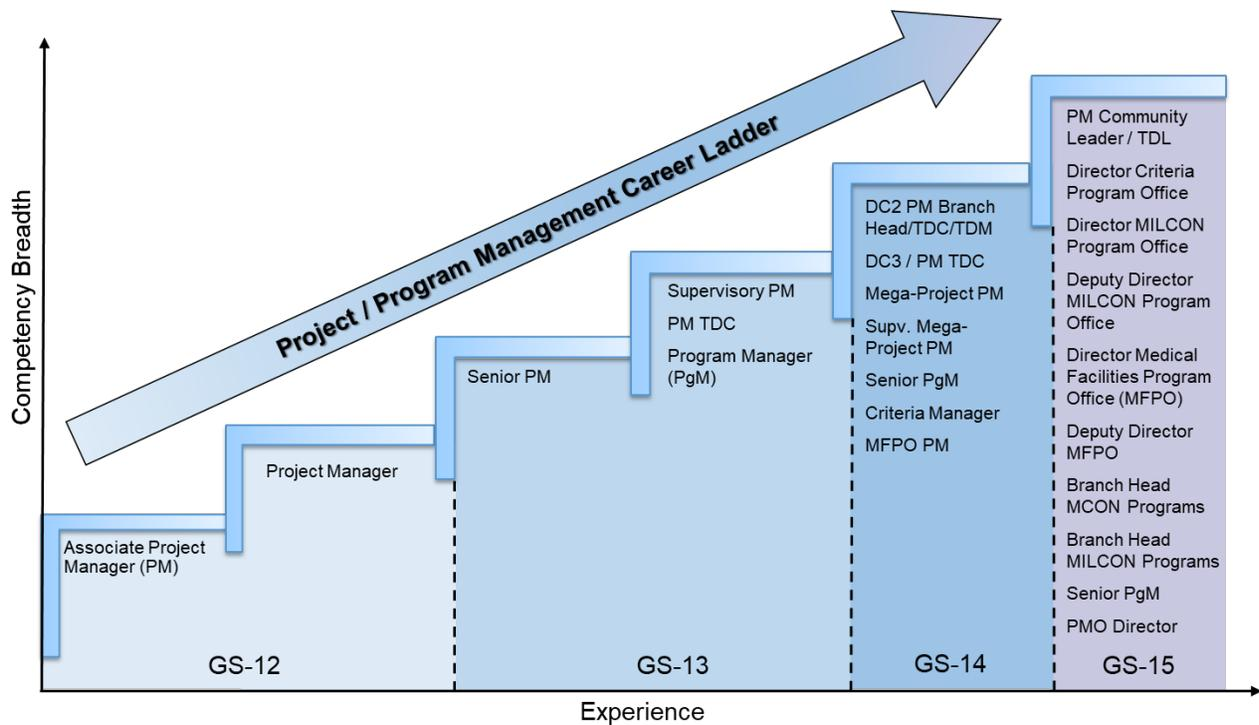

Figure 2. Project / Program Management Career Ladder
demonstrated through professional registration as a Professional Engineer (PE) or Registered Architect (RA). Program Managers are required to have professional registration. As shown in Figure 2, as a Project Manager grows in experience, mentoring and supervisory opportunities as well as opportunities to manage larger, more complex projects may be added. As the PM's competency breadth increases, these experiences can lead to opportunities in PM Leadership and Program Management. The PgM skillset and competency is highly valued within NAVFAC and easily translates into opportunities across the various NAVFAC Communities and Business Lines.